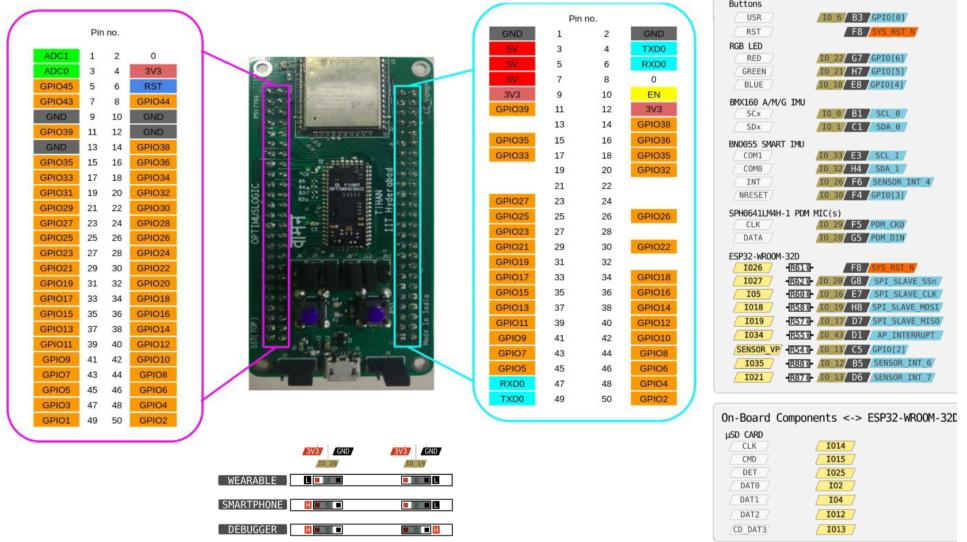

Fig. 9.1: Vaman pins. Right side represents ESP32 and left side M4-FPGA (Pygmy).
3. The Vaman pin diagram is available in Fig. 9.1.